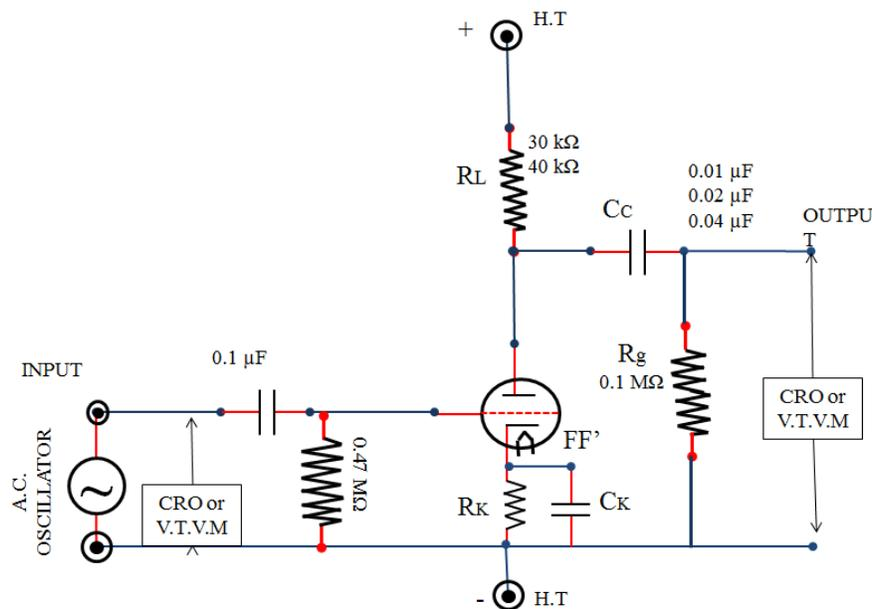

Figure 1. Single stage RC coupled amplifier
**RC COUPLED AMPLIFIER:** An input is connected to an audio frequency oscillator. Input and Output voltages are measured by V.T.V.M or CRO.  $C_c$  is the coupling condenser and  $R_g$  is grid leak resistor of next stage. Circuit is shown in Figure 1.
1. Wire the circuit as shown in figure 1.